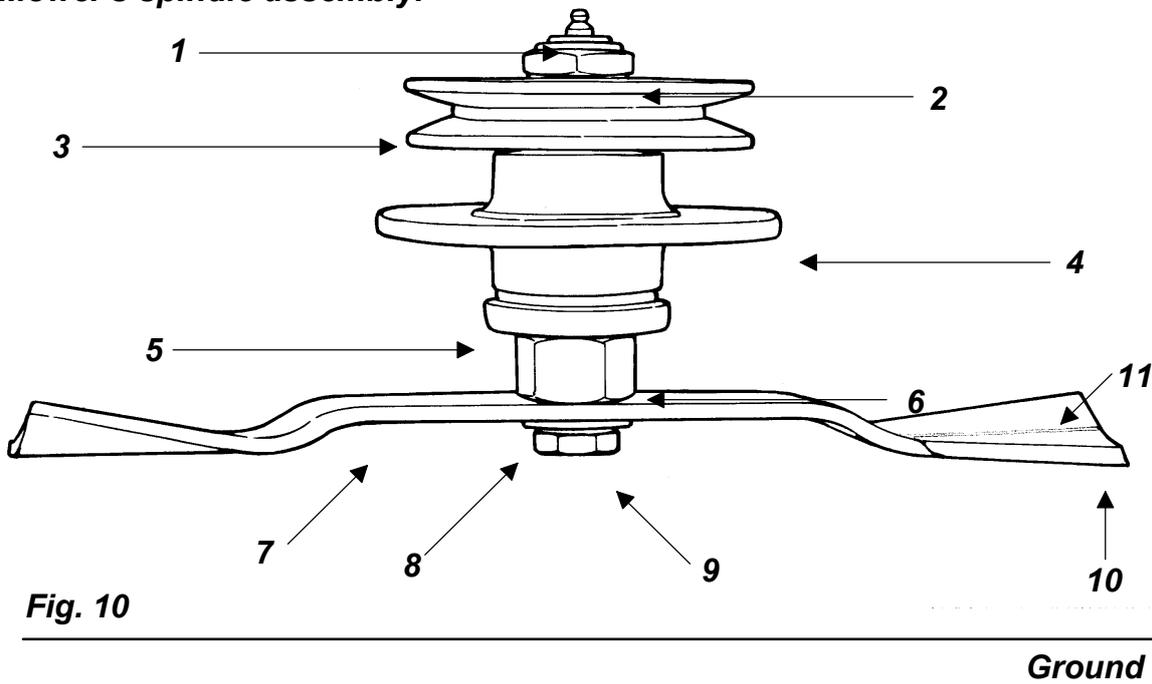

Fig. 10
1. the blade turns in a **counter clockwise** direction when viewed from the bottom of the deck. The cutting edge must be towards the direction of rotation. The lift wing of the blades is closest to the deck and the cutting edge away from it (**see fig. 10**).
2. Install the cup washer (**see fig. 10**) over the blade bolt and secure the blade in place as described above.